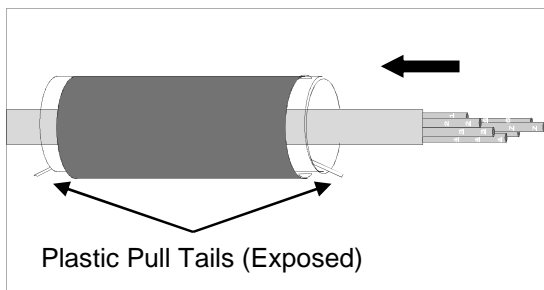

Figure 6
8.1 Slide shrink sleeve over one tube cable end and past exposed tubes. Be sure that one pull tail of the sleeve's plastic core inner wrapping is exposed at each end of the sleeve. **See Fig. 6.**